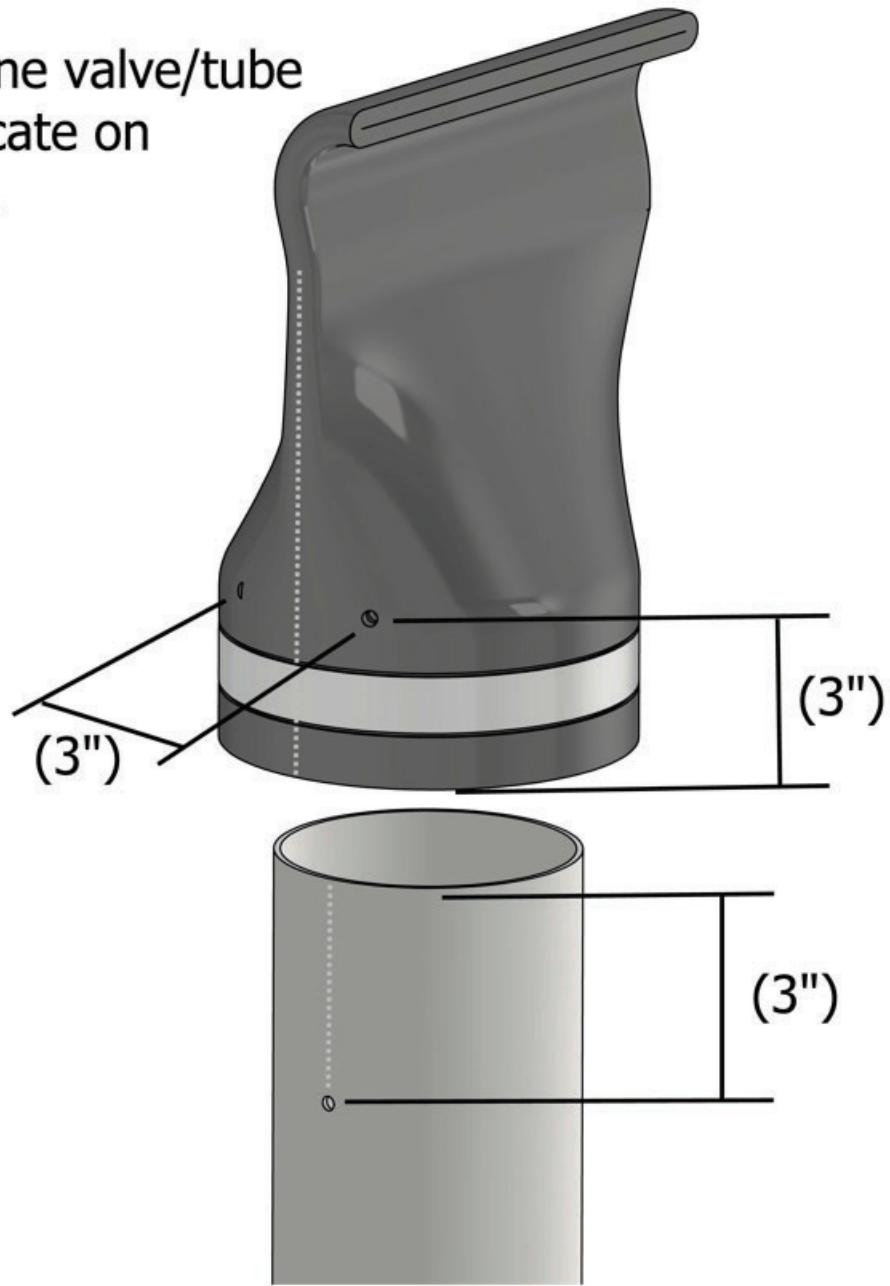

Figure 2
- (Option B-1)** Add holes as needed to create (4) #10 fastener holes to each valve and (2) #10 fastener holes to each fill tube. Refer to Figure 2 for ideal placement. The result is (12) total holes for the entire aircraft.
**(Option B-2)** Add (2) #10 fastener holes to each fill tube if none are already present. Replacement valve kit will have holes and studs pre-placed in the valve. Refer to Figure 2.